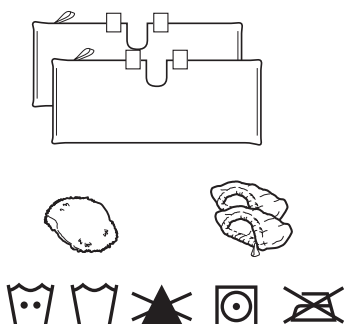

fig. 30
- 1 We recommend washing your cleaning pad and bonnets separately from other fabrics to avoid picking up lint. **Only use liquid detergent (no powder detergent). Do not use any fabric softeners or bleach.** Line dry or dry on a low dryer setting. (fig. 30)